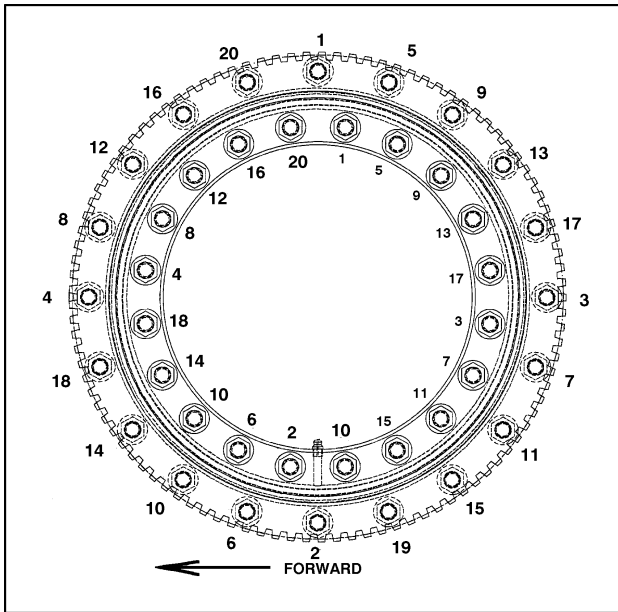

Figure 3-28. Swing Bearing Torque Sequence
2. Line up high spot (marked with yellow paint) of bearing with center tooth of bull gear. Set backlash to 0.008 - 0.012 inch (0.20 - 0.30 mm). Refer to Swing Drive Installation. Tighten capscrews as shown in Figure 3-28., Swing Bearing Torque Sequence
6. Following the torque sequence diagram shown in Figure 3-28., Swing Bearing Torque Sequence, tighten the bolts to an initial torque of 130 ft. lbs. (175 Nm). Then following the same sequence, tighten to a final torque of 190 ft. lbs. (260 Nm).
11. Following the torque sequence shown in Figure 3-28., Swing Bearing Torque Sequence tighten the bolts to an initial torque of 130 ft. lbs. (175 Nm). Then following the same sequence, tighten the bolts to 190 ft. lbs (260 Nm).